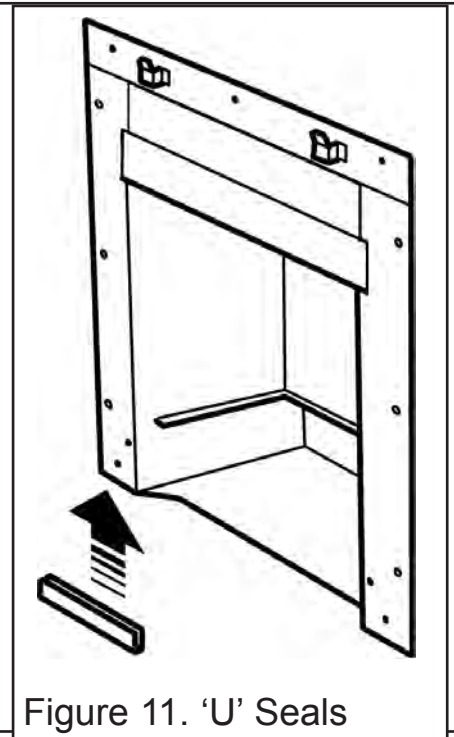

Figure 11. 'U' Seals
2. Fit the two “U” section seals to the bottom edges of the convection box side flanges (See figure 11).